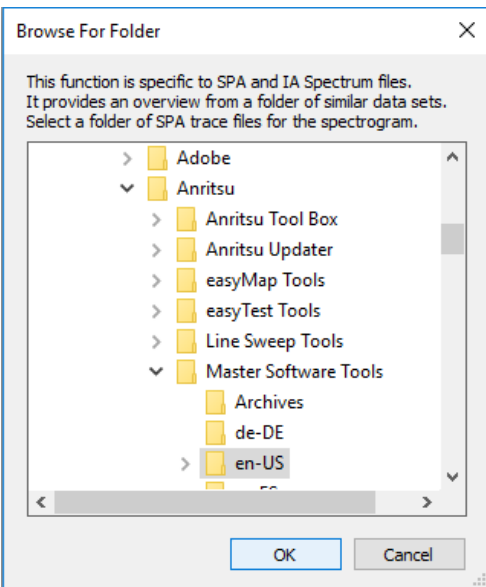

Figure 5-7. Program Options Window
3. Open the New menu, then click the Folder Spectrogram submenu. The Browse For Folder dialog window opens as shown in Figure 5-7.